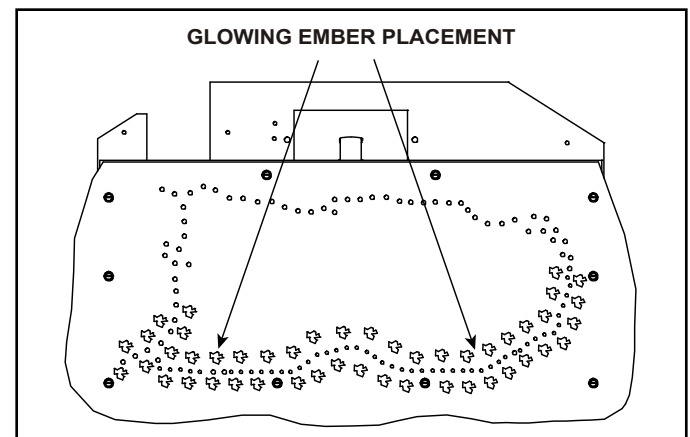

Figure 11.2 Placement of Embers
- When placing Glowing Embers® onto the burner care should be taken so that the ports are not covered. Place the dime-size ember pieces in front and behind of the port trail, but not on or in between the ports (see Figure 11.2). Failure to follow procedure will likely cause lighting and sooting problems.